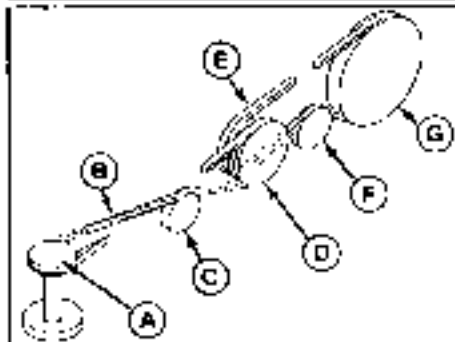

Figure 19. Belt Diagram
11. Pull the rear idler pulley down, and slip the lower belt section on top of the pulley. See the belt diagram (figure 19).
14. Place the back side of the belt into the front idler pulley and the V side of the belt in the variator pulley groove. Refer to the belt diagram (figure 19).